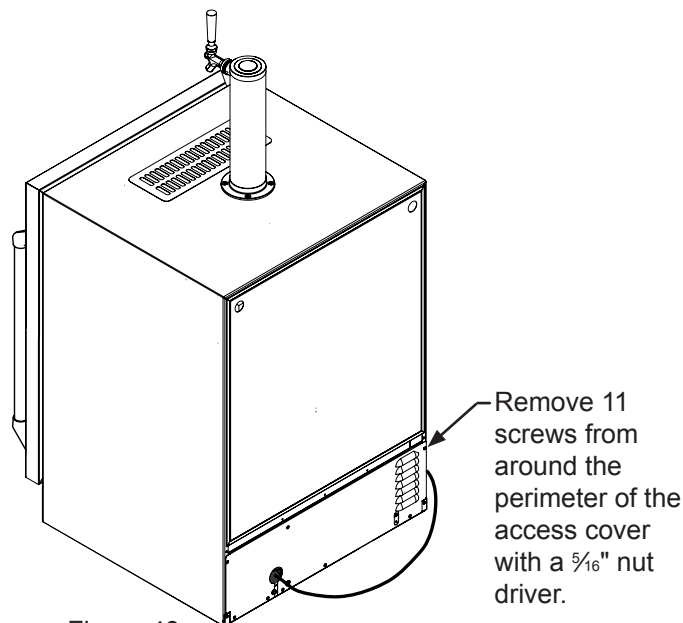

Figure 48
14. Remove the rear access cover, (see Figure 48), and use a brush and vacuum to clean dirt and debris from the machine compartment.